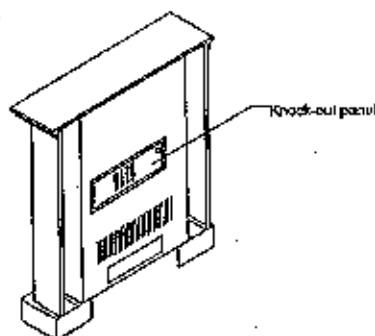

Figure 9-F Removing Stove Knock-out Panel
- From back of fireplace remove the Knock-out center panel with two brackets at the four sides with a Philips head screwdriver (see Figure 9-F).